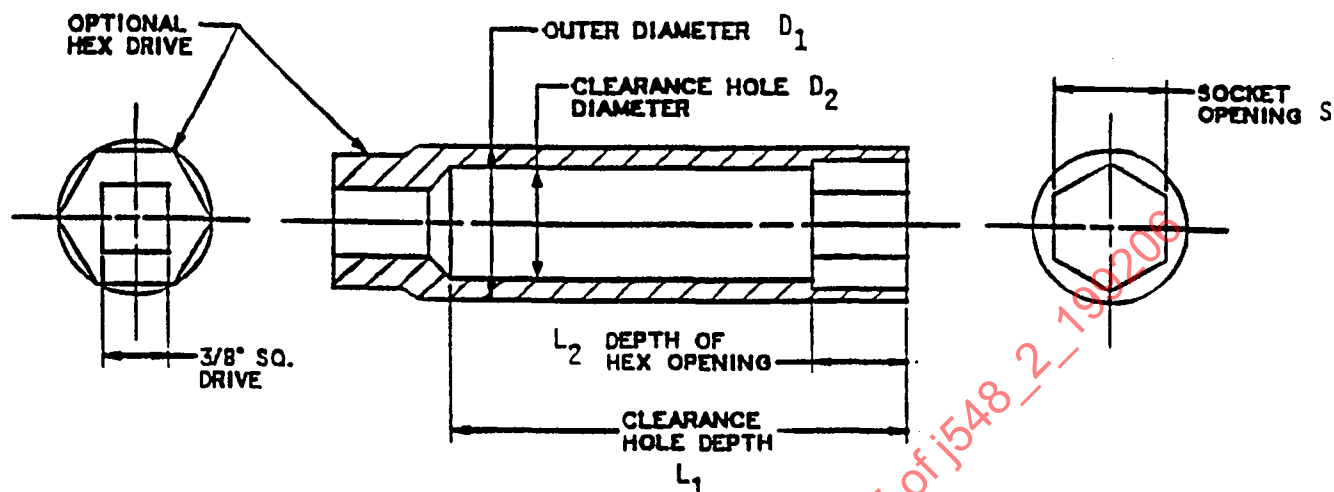

FIGURE 1—SPARK PLUG INSTALLATION DESIGN
3. The spark plug installation socket shall be of the long length type and the conventional single hexagon design. A replaceable oil and heat resisting retaining bushing or other equally suitable device shall be installed inside the socket to prevent damage to the spark plug insulator and for aligning and retaining the spark plug for easy installation and removal. This bushing should be pliable and compressible to minimize side loading to the spark plug insulator. The socket shall be similar to Figure 1 except for the following: